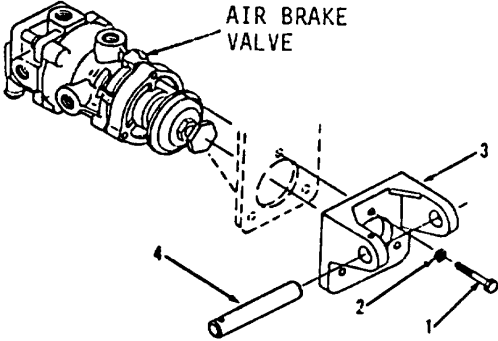

Figure 6-30.
Install air brake valve, shaft (4), bracket (3), three washers (2) and bolts (1, Figure 6-30) under right side of cab.